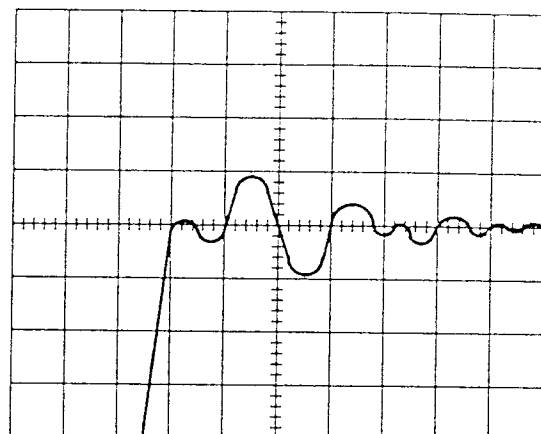

Fig. 4-18. Aberrations
3. Slowly turn the ZERO REF (SET) control clockwise until the front corner of the pulse appears at center screen (see Fig. 4-18).